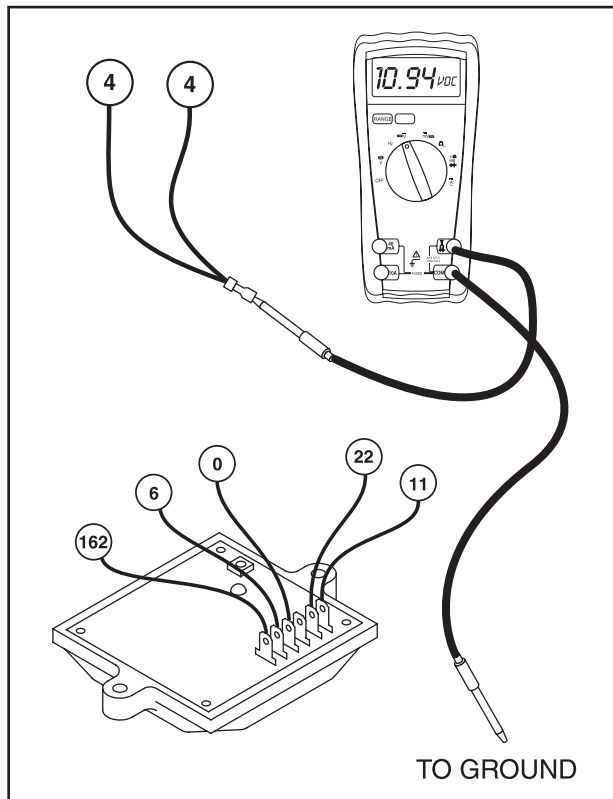

Figure 4. Field Boost Test Points
5. Crank the engine while observing the VOM reading. While the engine is cranking, the VOM should read approximately 9-10 volts DC. When engine is not cranking, VOM should indicate "zero" volts (see Figure 4).